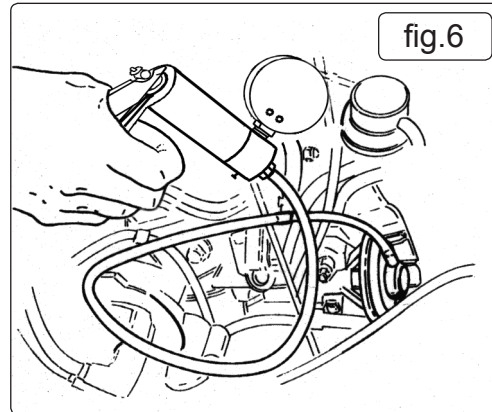

fig.6
6.4.1. Start engine and run at idle until normal operating temperature is reached. Remove the vacuum line from the EGR valve and attach the VS4021 vacuum tester kit (fig.6). Operate the hand pump to apply approximately 15 inHg of vacuum. If the EGR Valve is working correctly the engine idle will become rough. If the idle remains unchanged the valve is possibly seized in the closed position. If the vacuum is not held, the diaphragm in the valve has failed.